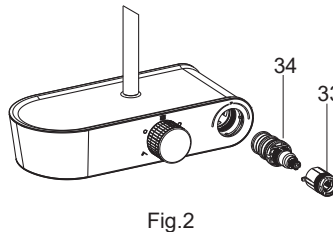

Fig.2
将螺母(32)和塑料套(33)卸下。小心地卸下温控阀(34)。用热醋进行清洗(Fig.2)。
Unscrew the nut(32) and stopper(33). Remove the cartridge(34) cautiously. Clean the cartridge by soaking it in warm vinegar(Fig.2).